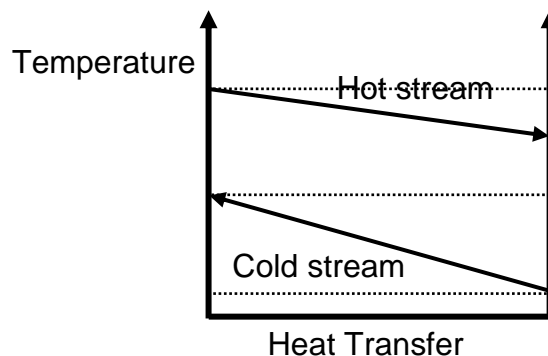

Figure Q1(j)
- (j) Figure Q1(j) shows the heat transfer between two fluids in a heat exchanger. Estimate the capacity ratio.